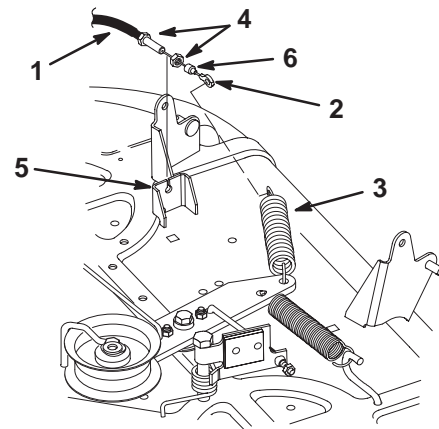

Figure 42
15. Remove the rubber wiper and first jam nut. Thread the second jam nut onto the blade control (PTO) cable all the way. Route the cable through the slot in the housing bracket and thread the second jam nut onto the cable (Fig. 42).
16. Hook the end of the blade control (PTO) cable onto the idler spring (Fig. 42).